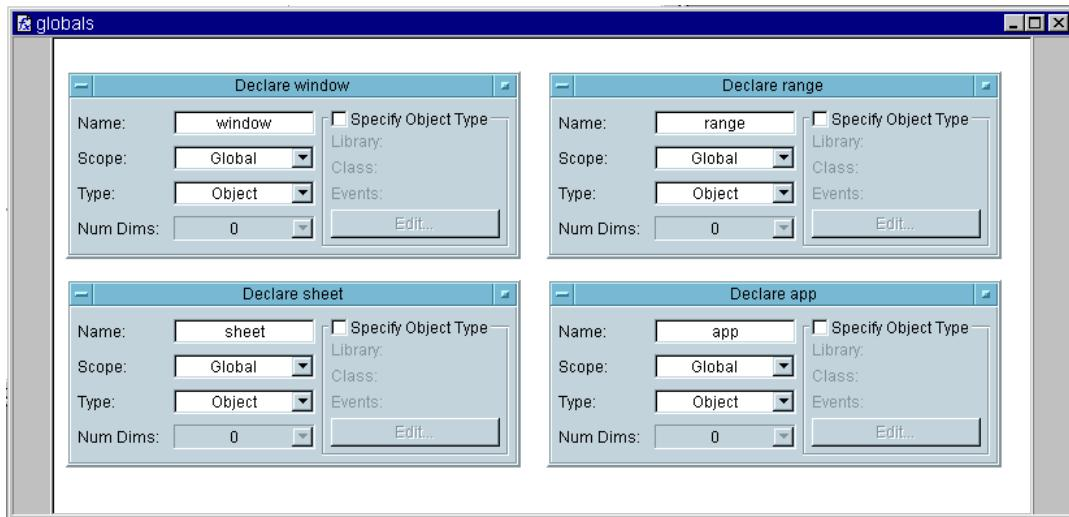

Figure 6-5. The Globals UserFunction
4. Clone this object three times, and rename the other objects as follows: `app`, `range`, and `window`. Size and move the `globals` `UserFunction` below `Main`. It should look like Figure 6-5.
5. After you have compared the entries to Figure 6-5, iconize the four objects.